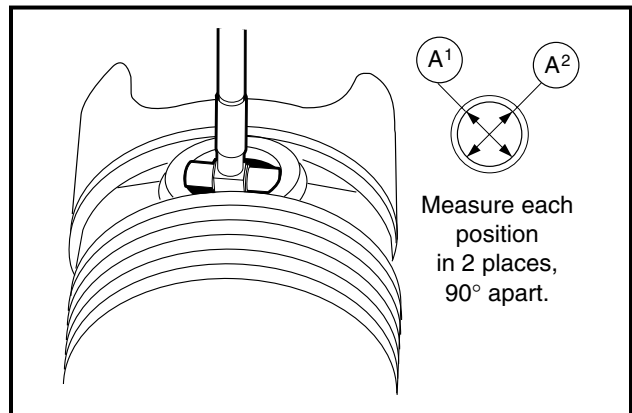

Figure 3-49 Measure I.D. of Piston Pin Hole
3. Use an inside micrometer or telescoping gauge to measure the inside diameter of the piston pin hole in the piston at several points (**Figure 3-49, Page 3-25**).